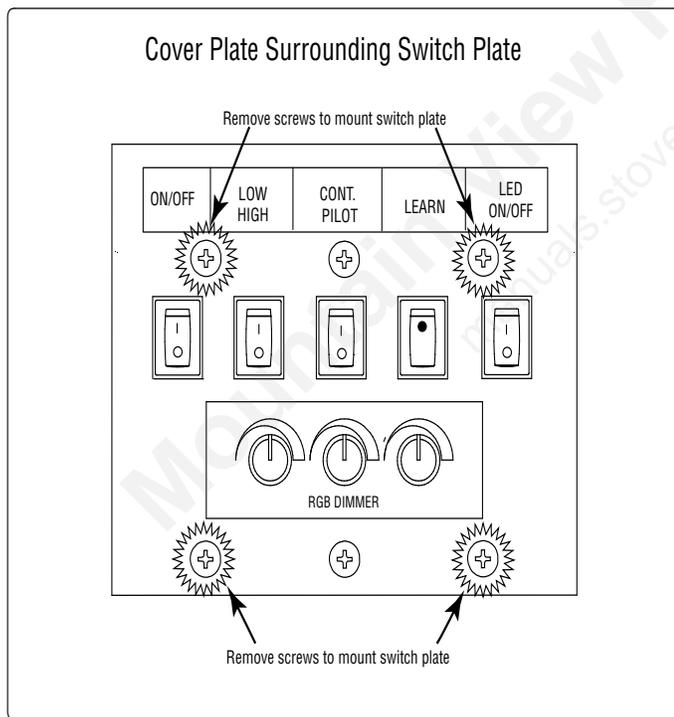
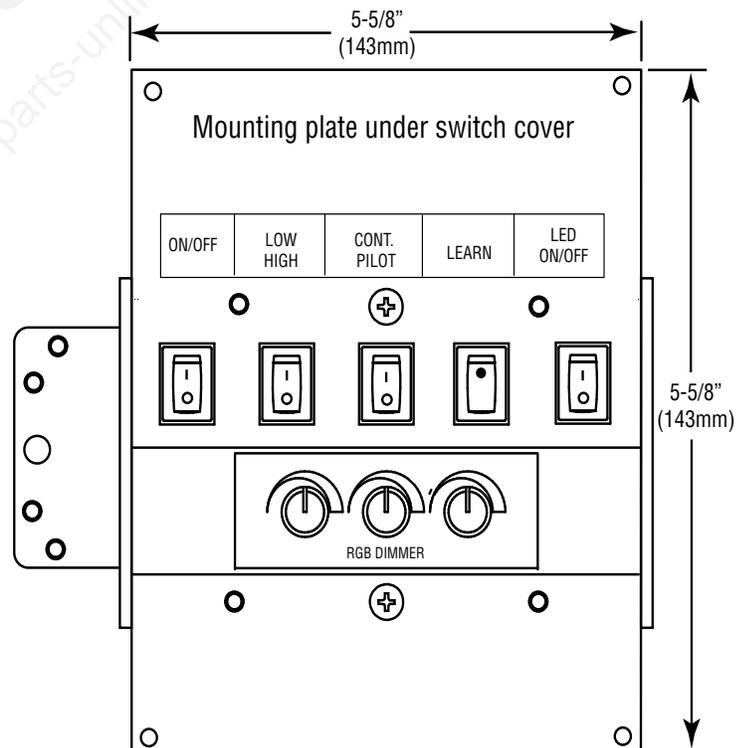
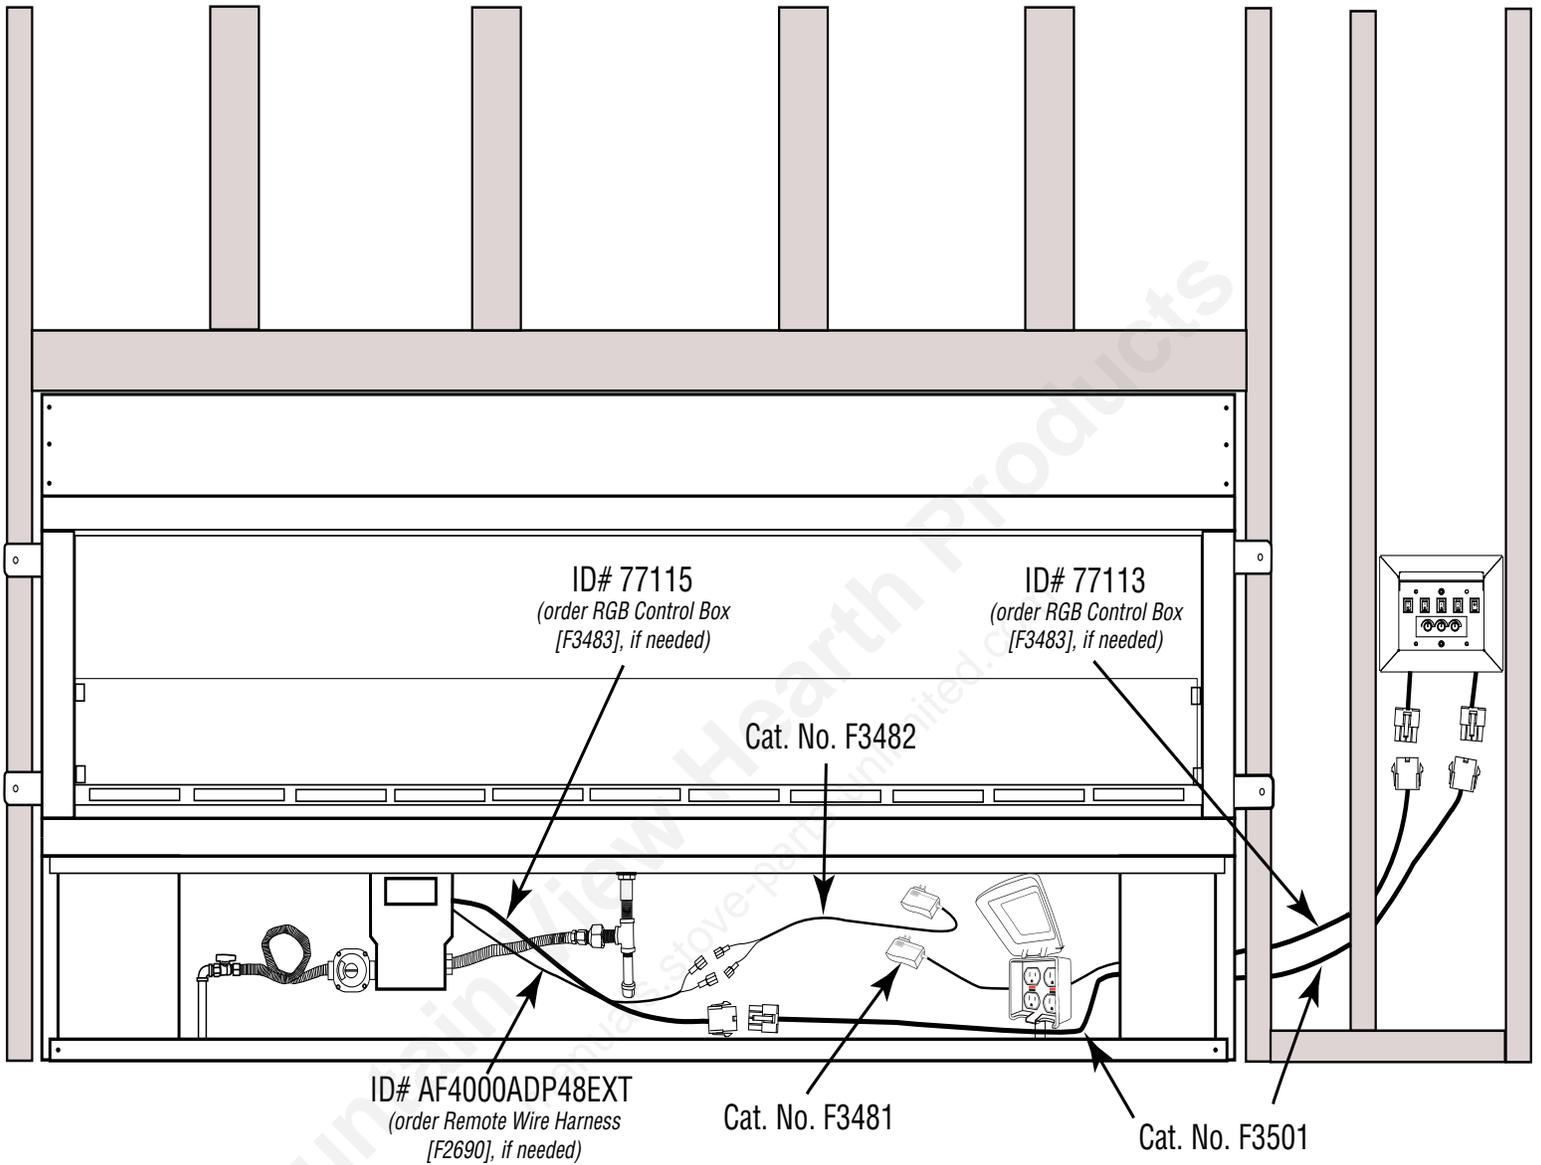

Figure 25 - RGB Control Box with 8-3/4" x 8-3/4" Cover Plate
Figure 26 - RGB Control Box Mounting Plate
Figure 27 - Overview of fireplace wiring
Step 10: Remove the RGB control box from the components parts carton. The fireplace is supplied with 10-feet of wiring for the RGB control box (switches and dimmer) installation. Find a suitable location within a close proximity of the fireplace for convenience of operation and mount the control box upright and level as shown in **Figure 27**. Use **Figures 25 and 26** for dimensional reference.
Step 11: Remove the four (4) outer screws from each corner inside the cover plate and lift off. See **Figure 25**. This will expose the mounting plate. See **Figure 26**. **CAUTION: DO NOT REMOVE THE TWO CENTER SCREWS FROM THE COVER PLATE. THIS WILL RELEASE THE ENTIRE SWITCH BOX WIRING FROM INSIDE THE JUNCTION BOX AND MAKE IT DIFFICULT TO REINSTALL.**
Step 13: Remove the 8-PIN module wire harness (Cat. No. F3501) from the components part box. Locate the 8-PIN male connector from the valve box (under the fireplace) and connect it to the 8-PIN female end of the wire harness. Connectors only attach one way; press together until it snap locks into place. See **Figure 27** for details.
Step 16: Locate the 6-PIN wire harness (Cat. No. F3500) for the LED lights and feed the wire harness up to the RGB control box and attach. Connectors only attach one way; press together until it snap locks into place. See **Figure 27**.